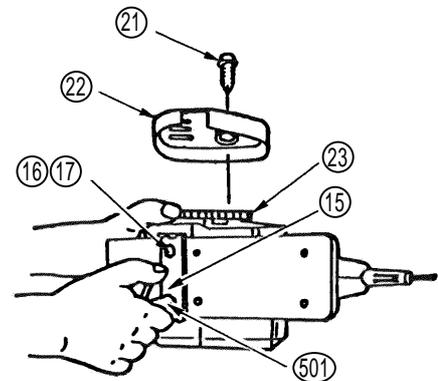

Fig. 1
(1) Removal of the Planer Blades, Belt and Related Parts:
- Remove the D4 x 12 Tapping Screw (21) which fixes the Belt Cover (22), and disassemble the Belt Cover from the main body.
- As illustrated in Fig. 1, hold the Belt (23) in position with one hand, and with the 8 mm Box Wrench (501) loosen and remove the two Bolts (17) and Spring Lock Washers (16) which fix the Planer Blade (14). The Planer Blade (14) and Blade Holder (15) can then be removed.
- [NOTE] Be very careful not to lose the very small Spring Lock Washers (16).
- Rotate the Belt (23) by hand to invert the Cutter Block (13), and repeat the above procedures to remove the remaining Planer Blade (14) and Blade Holder (15).
- After the Planer Blades (14) have been removed, remove the Belt (23) while rotating it by hand.